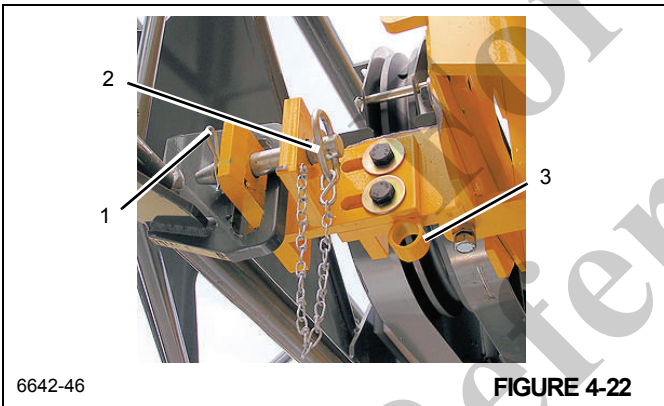

FIGURE 4-22
12. Remove the clip pin (1, Figure 4-22) from the stowage pin (2) at the front mount. Unpin the stowage pin (2) and store in holder (3).